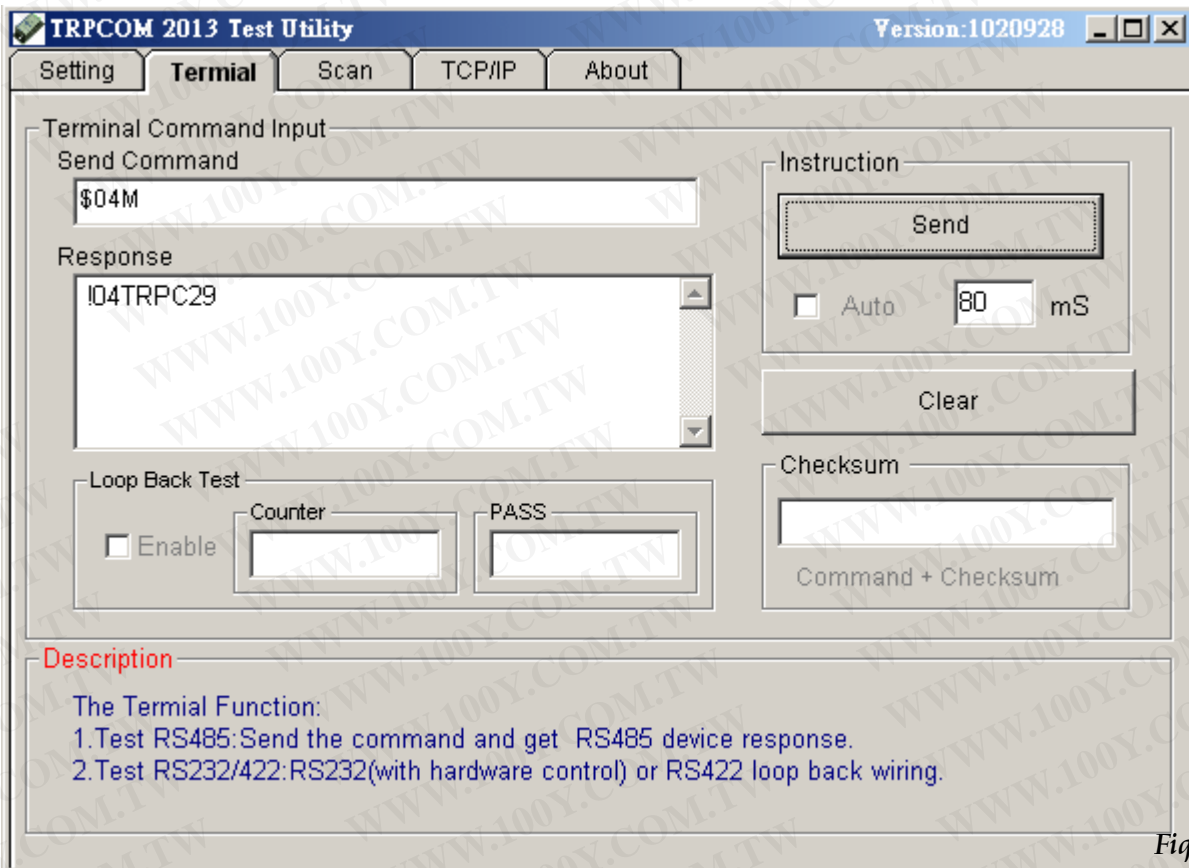

Figure 2
2.The "Terminal" function is for user to input command, user can control all of module's digital input/output status or wait to get module response status ...See Figure 2.